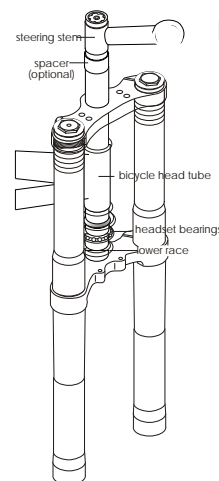

FIGURE 2
- 4.) Preassemble headset by sliding fork steerer tube through headset bearings. Then install top headset, top crown, stem spacer (optional), and steering stem onto fork steerer tube. Refer to headset owner's manual if you have any questions about this preassembly (figure 2).